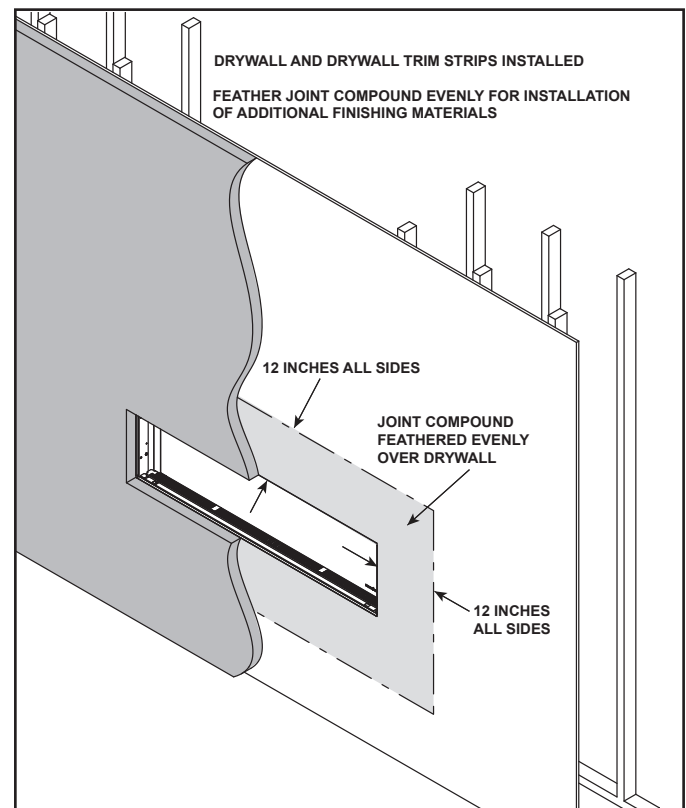

Figure 10.1
- 1. **Step 1:** Fill all gaps and joints between the drywall pieces with a general purpose chemically setting joint compound such as Durabond® 45 Joint Compound manufactured by USG (Sheetrock® brand), recommended by Hearth & Home Technologies. Use a drywall knife to firmly press the joint compound into all gaps. See Figure 10.1. Allow these joints to dry.
- Additional non-combustible finishing materials such as granite, stone or tile may be installed. For best results when using the provided drywall finishing strips, see Figure 10.1.